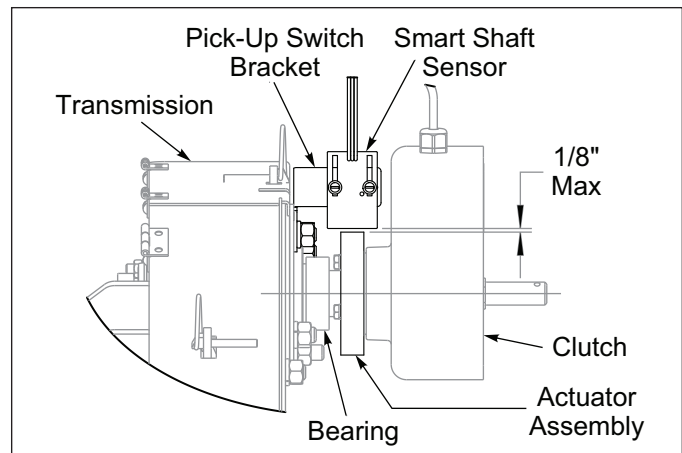
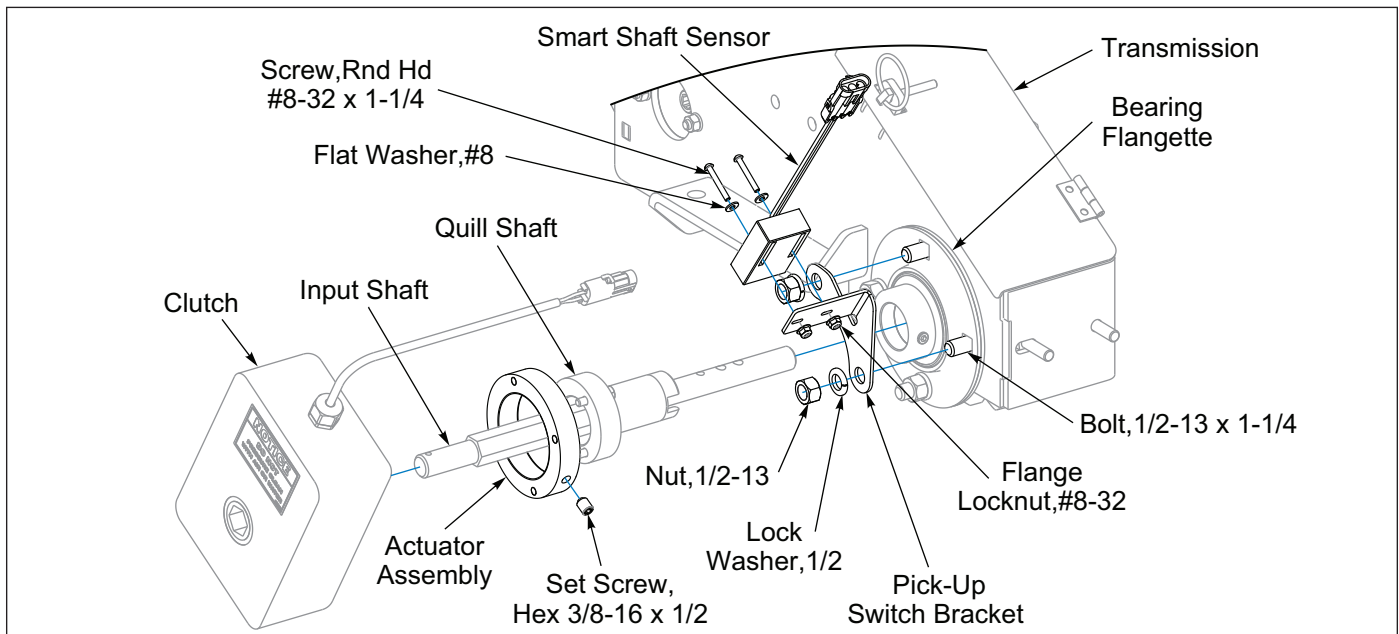

Figure 2-30: Ground Speed Sensor Detail
Figure 2-34: Brillion Elite Mini Monitor - Ground Speed
2. Remove Seeder Clutch. Install Actuator Assembly onto the Quill Shaft outer diameter, securing with Actuator Assembly Set Screw. Reinstall Clutch. See Figure 2-34. Install Pick-up Switch Bracket to the Transmission Input Shaft Bearing Flangette Hardware. Assemble Smart Shaft Sensor onto the Pick-Up Switch Bracket with sensor provided hardware and #8-32 Flange Locknuts. Adjust the Smart Shaft Sensor so that it is 1/8" Max away from the Actuator Assembly. See Figure 2-30. Connect Ground Speed Smart Shaft Sensor to the Center Seeder Harness.